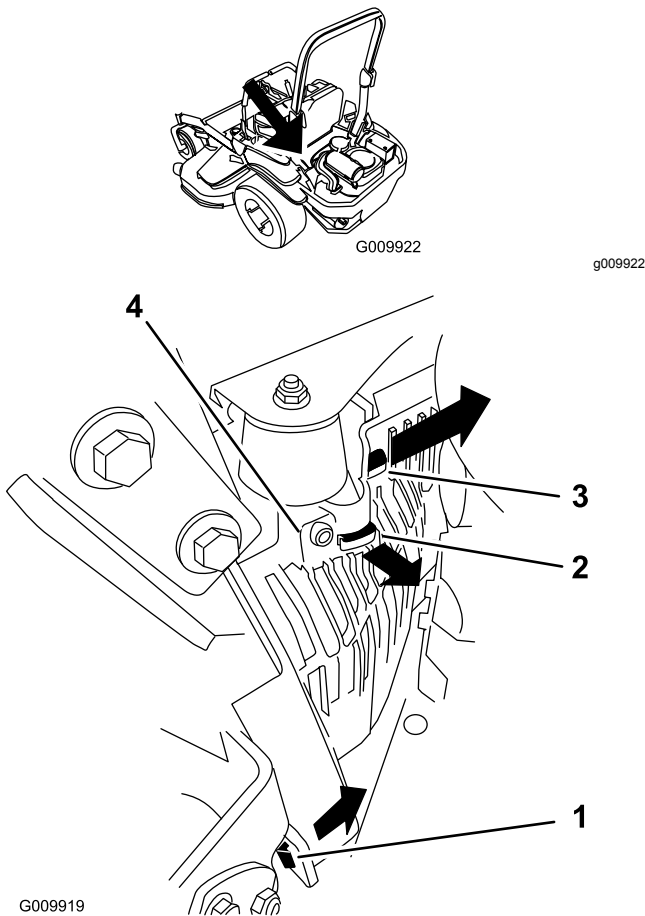

Figure 53
3. Remove the left hydraulic-unit shroud in the order listed with Figure 53.
5. Install the left hydraulic-unit shroud (Figure 53).